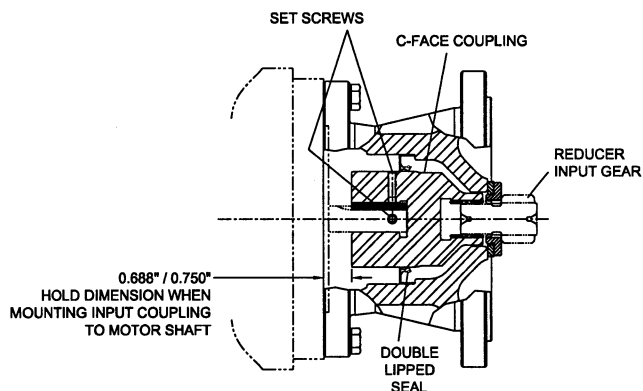

Figure 2.3.1b C-Face Cross Section
2.a. **C-FACE:** Locate the C-Face coupling 0.688 to 0.750" from the motor face (**Hint: Standard keystock is helpful for this purpose**). Refer to the illustration in **Figure 2.3.1b**.